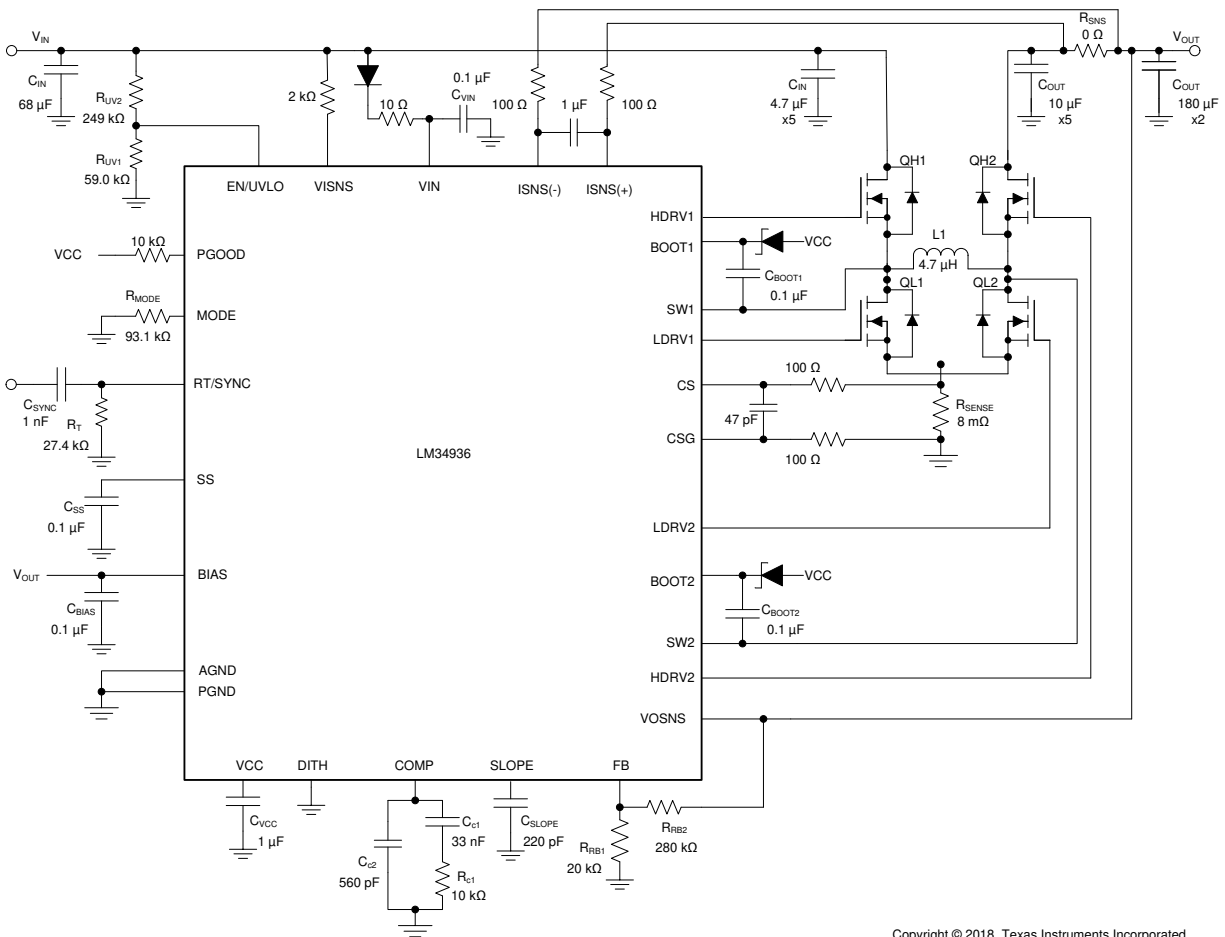

Figure 8-1. LM34936-Q1 Four-Switch Buck Boost Application Schematic
A filter network as shown in Figure 8-1 is often used across the ISNS(+) and ISNS(–) pins to filter the ripple in the average current sense signal.
For applications where the input voltage is higher than 28 V, a 2-k Ω resistor in series with the VISNS pin is required as shown in Figure 8-1.
The LM34936-Q1 has a gm error amplifier for loop compensation. The gm amplifier output (COMP) range is 0.3 V to 3 V. Connect an R_{C1} - C_{C1} compensation network between COMP and ground for type II (PI) compensation (see Figure 8-1). Another pole is usually added using C_{C2} to suppress higher frequency noise and switching frequency ripple.
The low-side gate drivers are powered from VCC and the high-side gate drivers HDRV1 and HDRV2 are powered from bootstrap capacitors C_{BOOT1} (between BOOT1 and SW1) and C_{BOOT2} (between BOOT2 and SW2), respectively. The C_{BOOT1} and C_{BOOT2} capacitors are charged through external Schottky diodes connected to the VCC pin as shown in Figure 8-1.
Typically, a combination of ceramic and bulk capacitors is needed to provide low ESR and high ripple current capacity. The complete schematic in Figure 8-1 shows a good starting point for C_{OUT} for typical applications.
The maximum RMS current occurs at $D = 0.5$, which gives $I_{\text{CIN(RMS)}} = I_{\text{OUT}} / 2 = 3 \text{ A}$. A combination of ceramic and bulk capacitors should be used to provide short path for high di/dt current and to reduce the output voltage ripple. The complete schematic in Figure 8-1 is a good starting point for C_{IN} for typical applications.
For some application circuits, it can be required to add a filter network to attenuate noise in the CS and CSG sense lines. See Figure 8-1 for typical values. The filter resistance must not exceed 100 Ω .